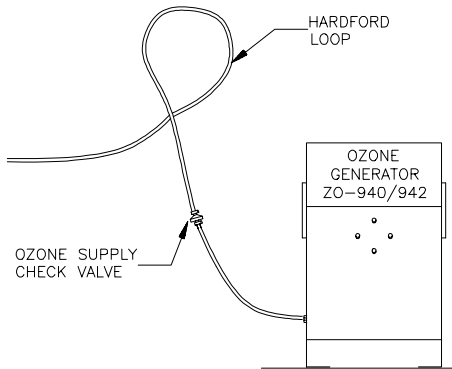

Figure 2: Installation Diagram
6. A pressure wire connector is provided on the outside of the unit to permit connection to a minimum No. 8 AWG (8.4 mm) solid bonding conductor between this point and any metal equipment, metal enclosures of electrical equipment, metal water pipe, or conduit within five (5) feet (1.5m) of the unit as needed to comply with local requirements.
9. The ZO-940/942 may be installed either indoors or outdoors, and must be installed so that the orientation is exactly as shown in **Figure 2**. Install to provide drainage of compartment for electrical components.
Find a suitable location to mount the DELZONE ZO-940/942. It cannot be accessible to anyone inside the pool and must be installed in an upright position as shown in Figure 2. The ZO-940/942 should be mounted **above** the water line, if possible. If this is not possible, the ozone supply tubing **must** be routed above the water line with a Hartford Loop (water trap) between the generator and the pool. In either case, the supplied in-line check valve must be installed in the ozone supply tubing between the generator and the pool.